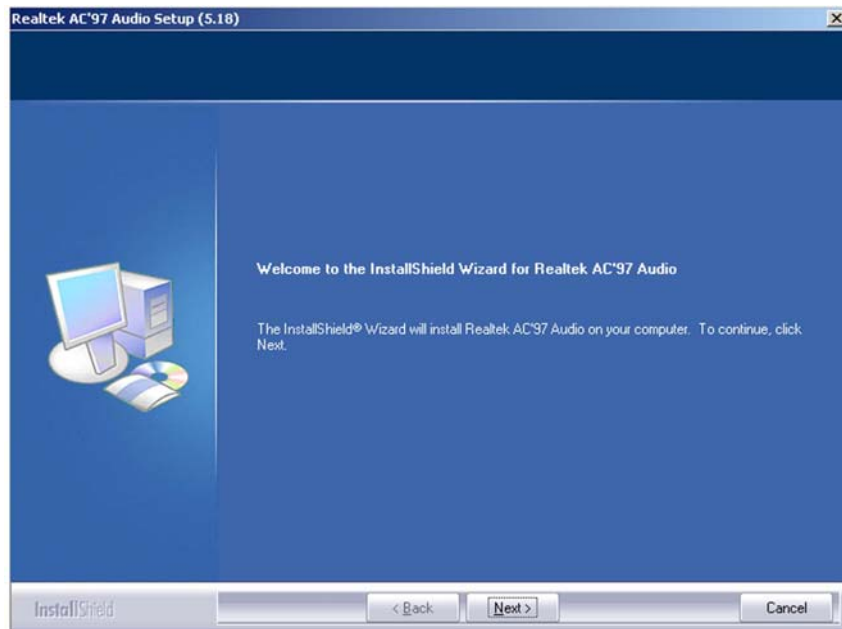
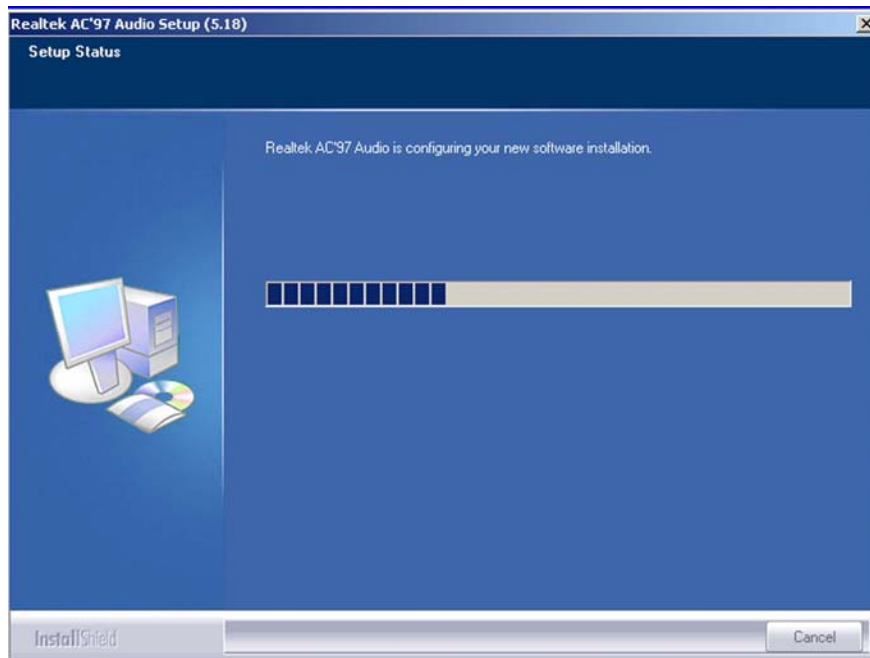

Figure 7-26: AC`97 Audio Driver Welcome Screen
Figure 7-27: AC'97 Audio Driver Software Configuration
Step 6: After the install shield is prepared, the welcome screen shown in **Figure 7-26** appears. To continue the installation process, click the “**NEXT**” button. The install shield starts to configure the new software as shown in **Figure 7-27**.